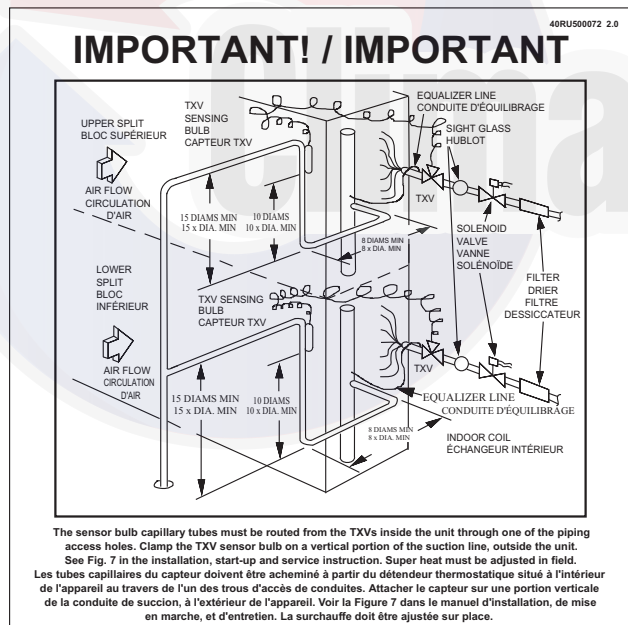

Fig. 21 - Label, TXV Bulb Location
- Is TXV bulb located on suction tube per Fig. 21?